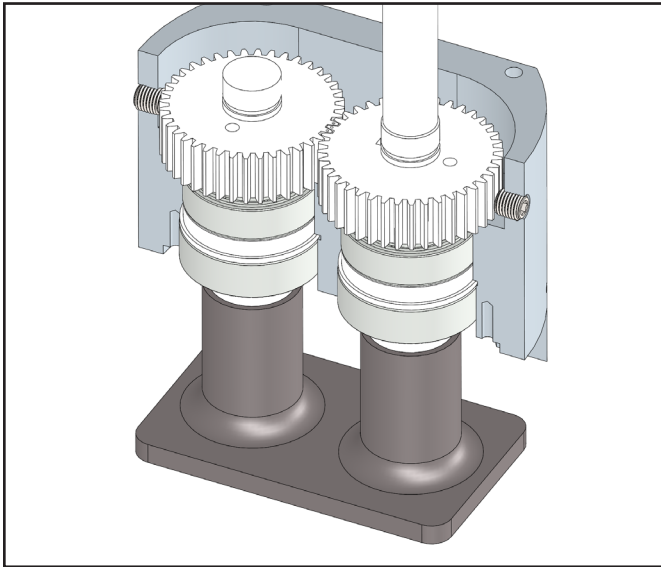

Figure 44.
7. Install gear spacers, gear keys, and then the gears onto shafts. (fig. 44) Ensure dots are aligned (fig.44)